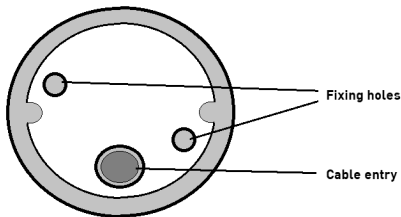

Fig. 1
- Using the baseplate as a template, mark the location for, and drill the fixing holes ensuring not to infringe with any gas/water pipes or electrical cables (see Fig. 1)